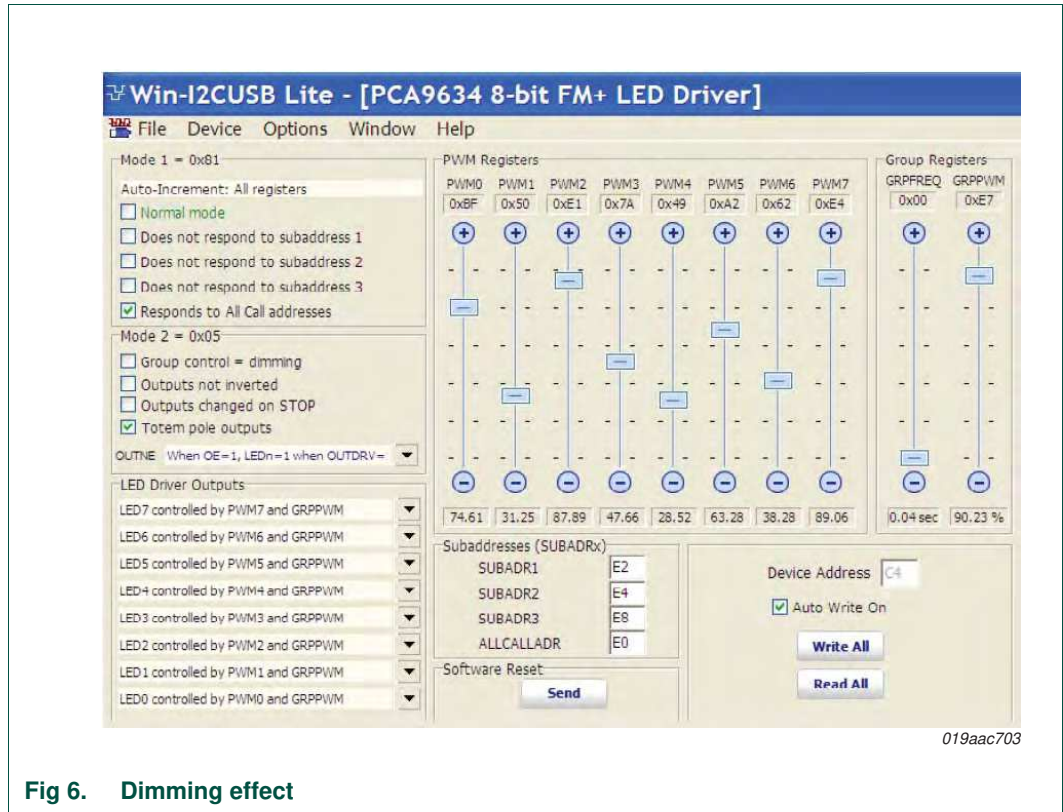

Fig 6. Dimming effect
9. Once you set a color with the PWM values, move the GRPPWM bar in Group Registers and observe the dimming effect as in Figure 6.